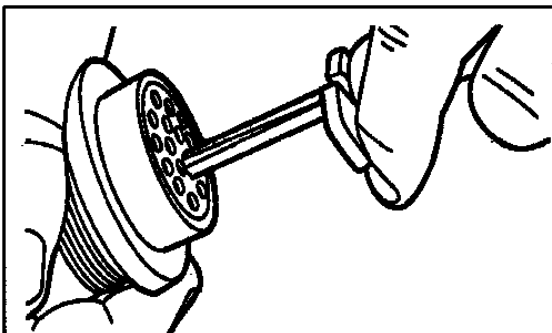

Figure 24 Slide Tool into Cavity Over Contact
- Slide the tool into the cavity over the contact until resistance is felt (locking fingers released) as shown in Figure 24 .